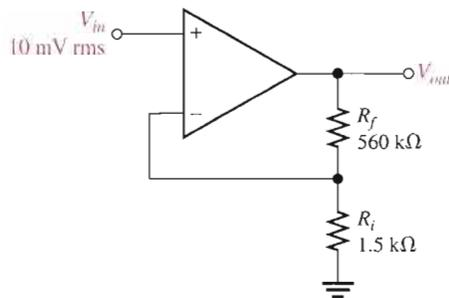

**FIGURE 12-54**
11. Identify each of the op-amp configurations in Figure 12-54.